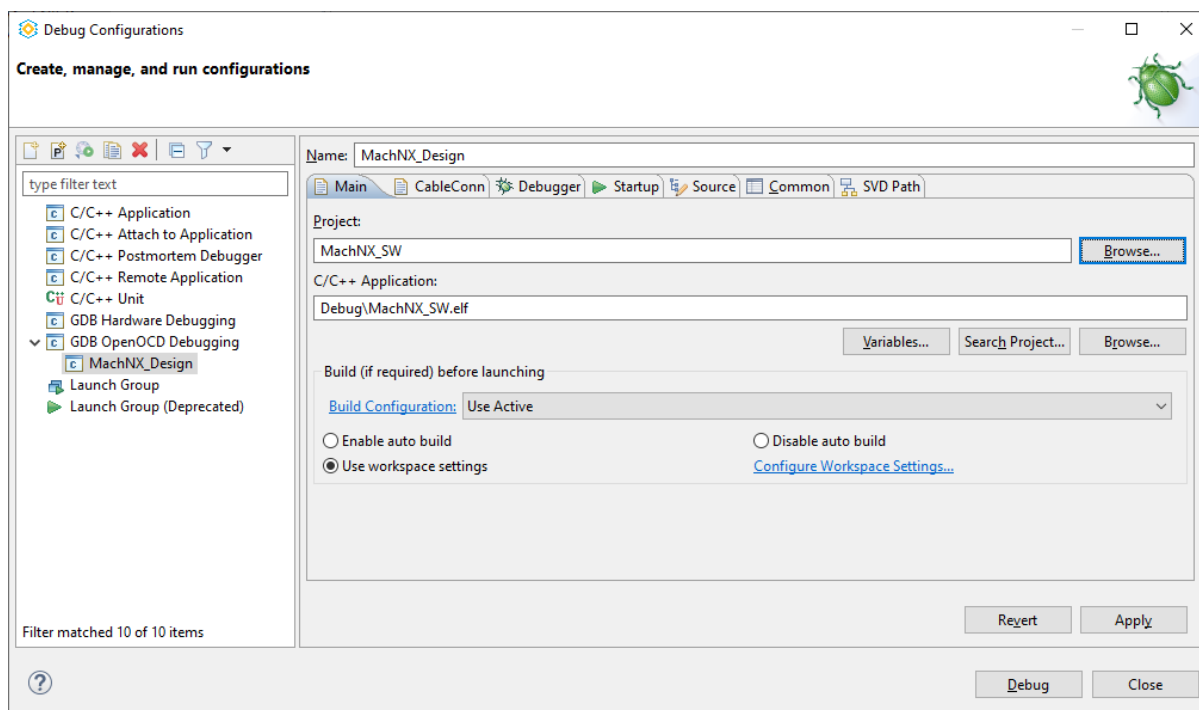

Figure 5.1. Debug Configurations
7. Create a debug configuration. Click **Run > Debug Configurations** from the Propel main interface toolbar. This opens the **Debug Configurations** window, as shown in Figure 5.1.